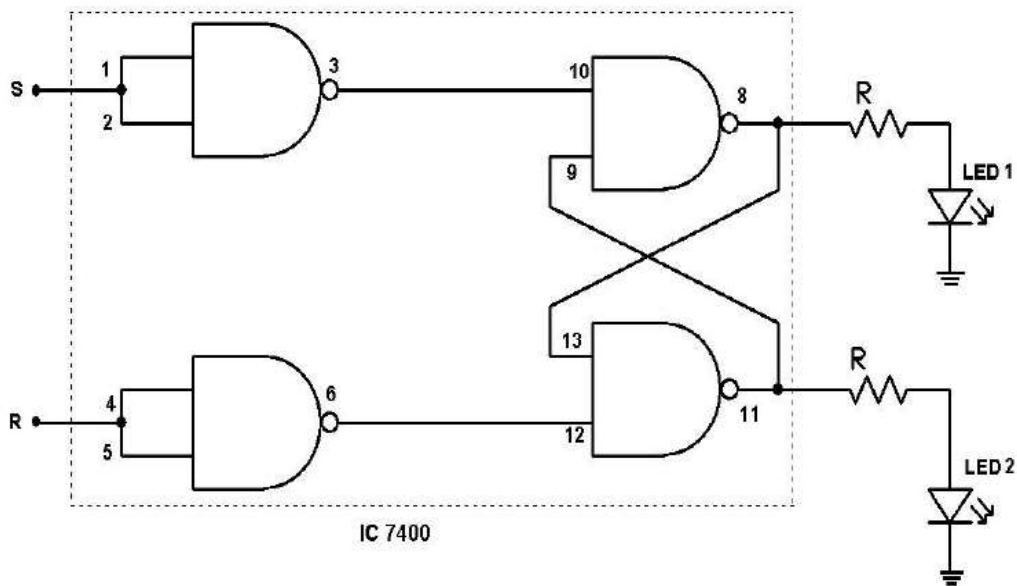

Fig 12.3 SR Flip-Flop using NAND gates
2. Make the connections as shown in figure 12.3